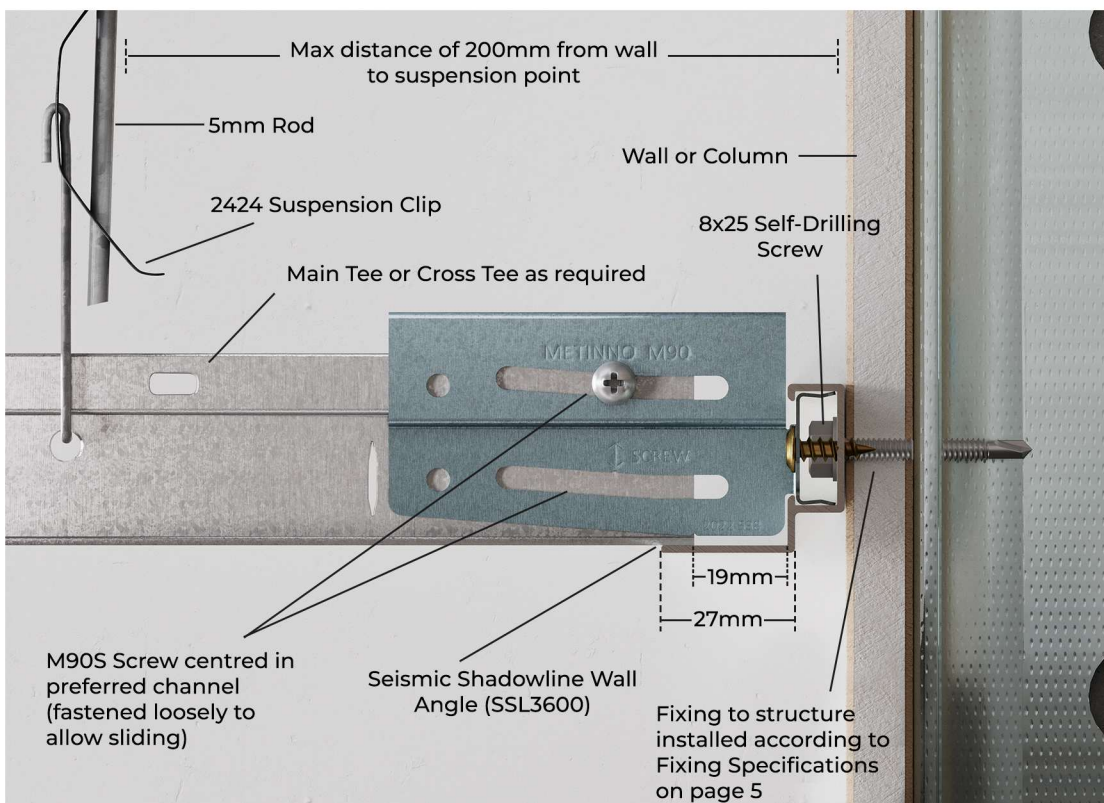
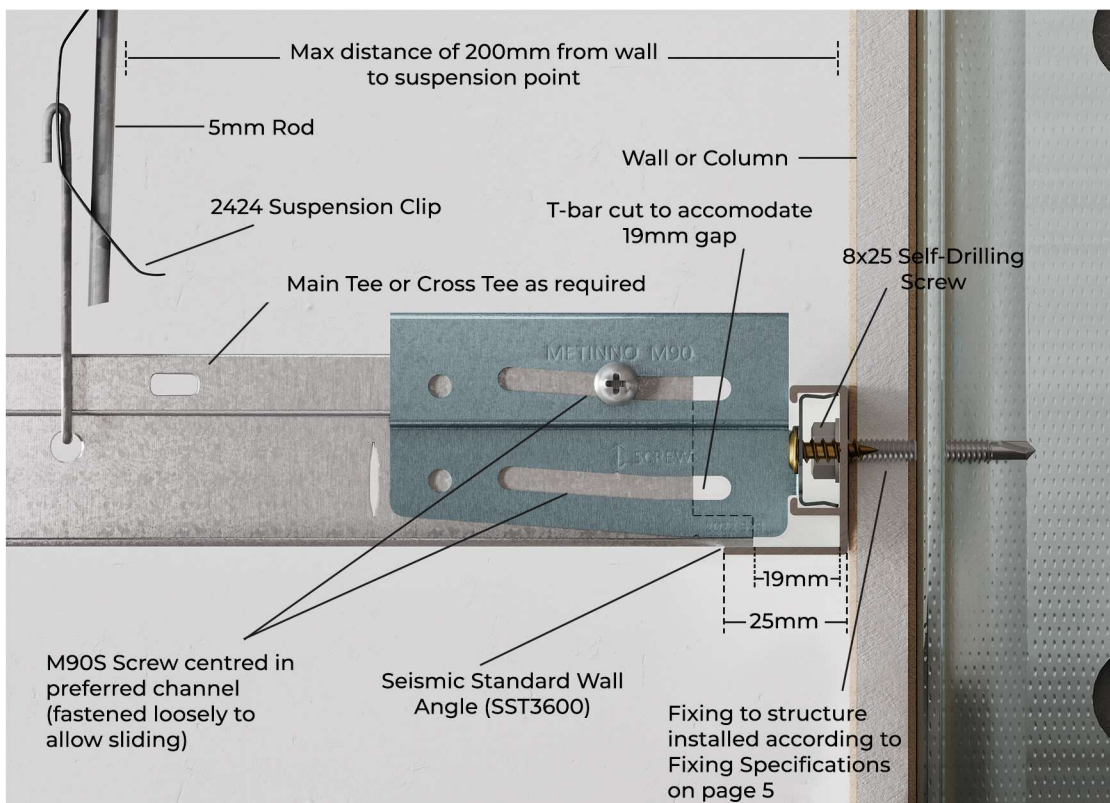

Fig 10. Floating Ceiling-Wall Connection with M90 Clip
Fig 12. Floating Ceiling-Wall Connection with M90 Clips
3. Seismic Clearance for travel: To accommodate the movement of the T-bar in Floating configurations, it is necessary to have a 19mm clearance between the end of the grid and the vertical leg of the Perimeter Trim on two adjacent sides of the ceiling. See Fig 10 and Fig 12 on Pages 9 and 10 for details of this travel clearance created by the Metinno M90 Clip.
(see also Fig 12 on Page 10)